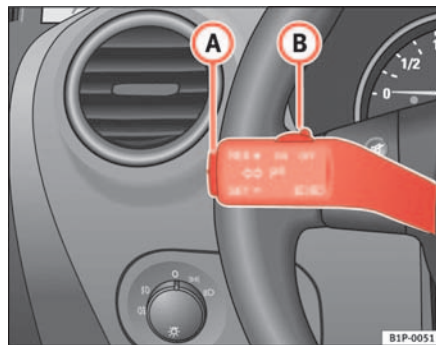

Fig. 125 Turn signal and main beam lever: Switch and rocker switch for CCS
- Push the switch  fig. 125 **B** to the left to **ON**.